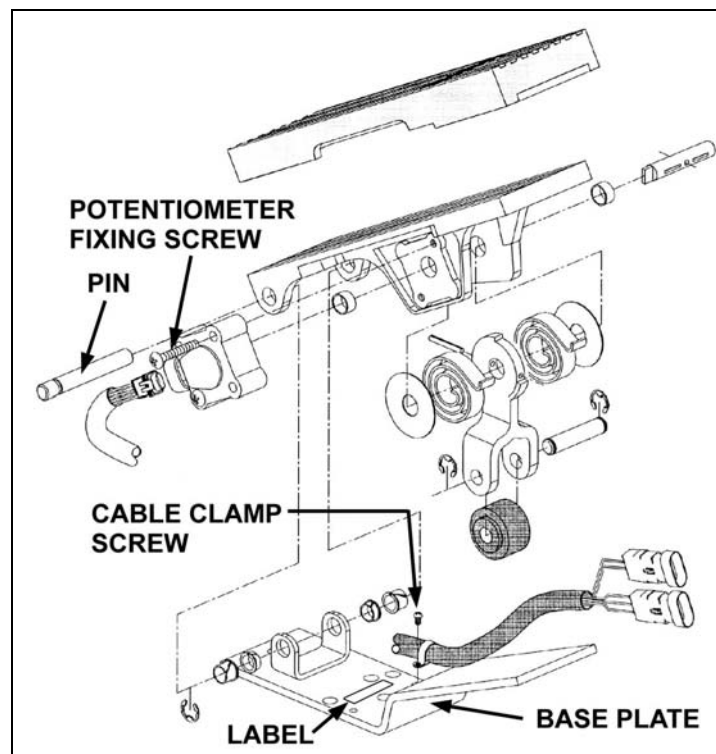

FIGURE 1
2. Locate the Product Specification Label affixed to the base plate (refer to figure 1);